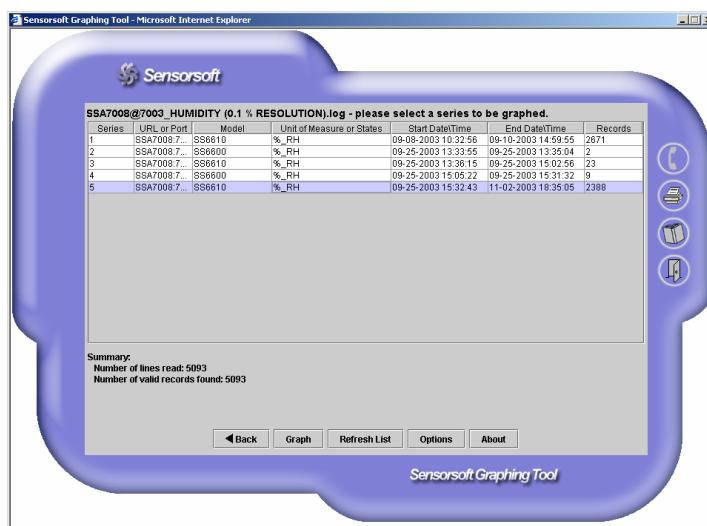

Figure 2
- The applet will begin to download the data file from the web server and profile it. Once the profiling is complete, you will see a message at the top of the applet: "...please select a series to be graphed". Select a series to be graphed and click the Graph button (see Figure 2).